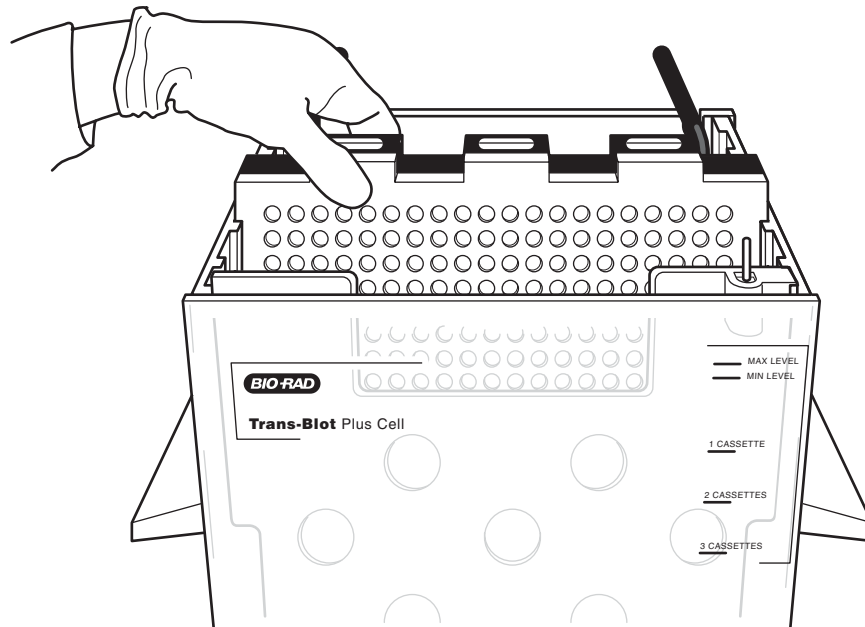

Fig. 4.
13. Once the cassette is closed and locked, insert it into the tank with the hinge side up. Make sure the red cassette plate faces the red electrode plate (see Figure 4).